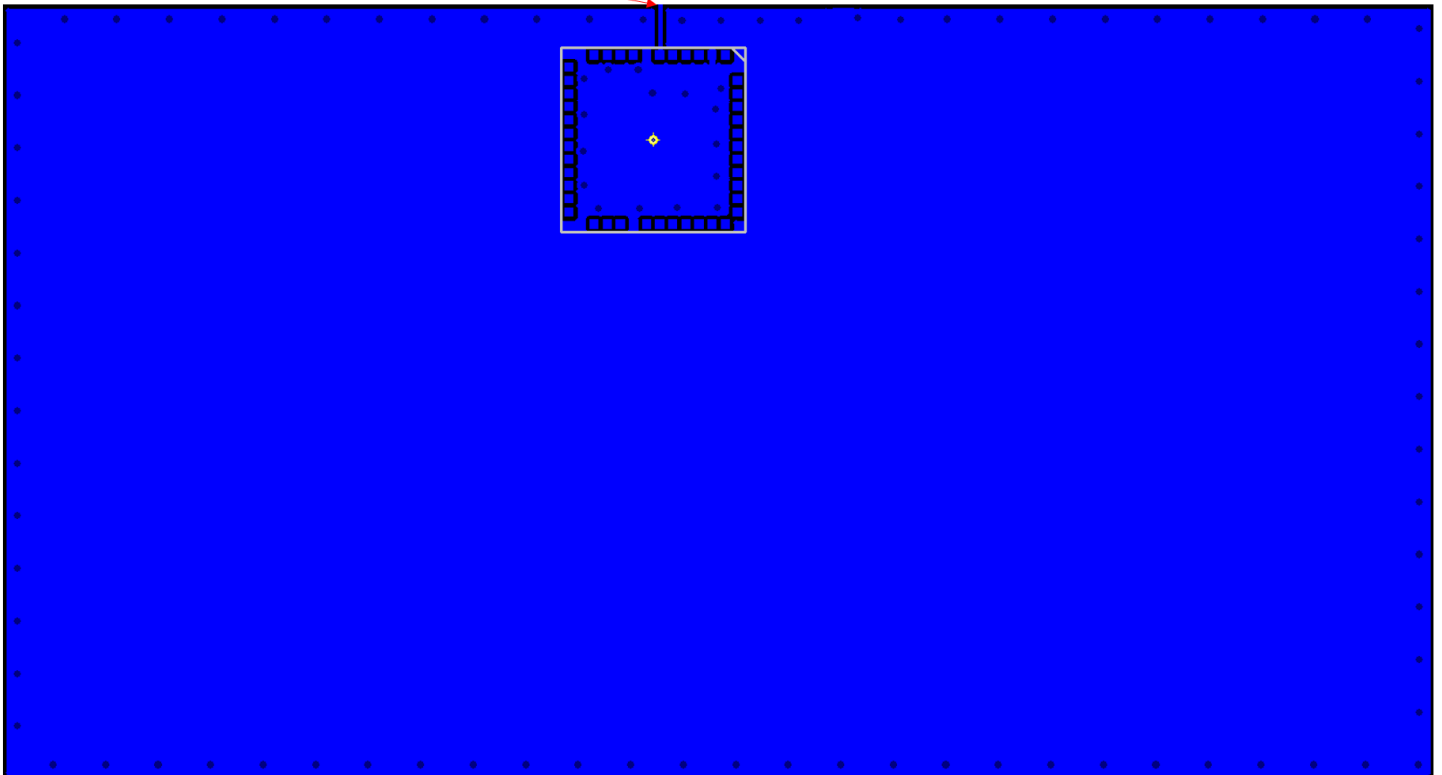

Figure 7.4. Recommended Layout for MGM240S (External Antenna)
- With an external antenna, use a 50Ω trace to connect RF signal to the antenna, as it is illustrated in Figure 7.4 Recommended Layout for MGM240S \(External Antenna\) on page 41